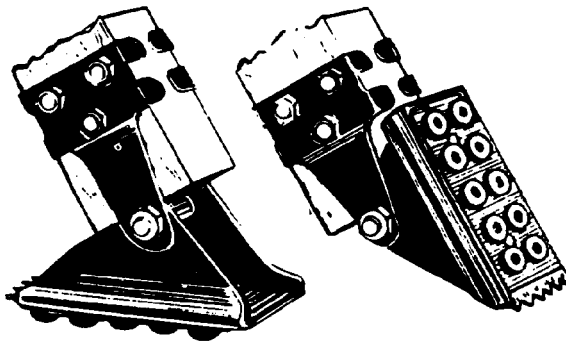
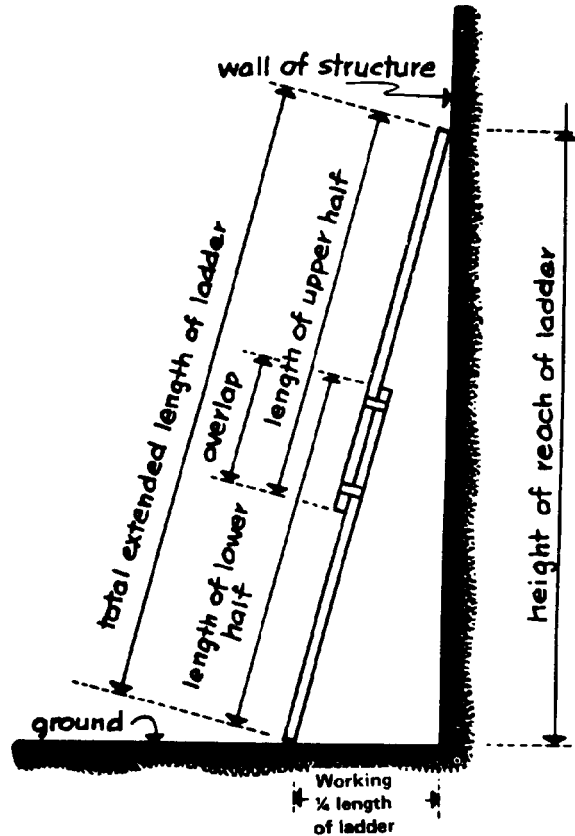
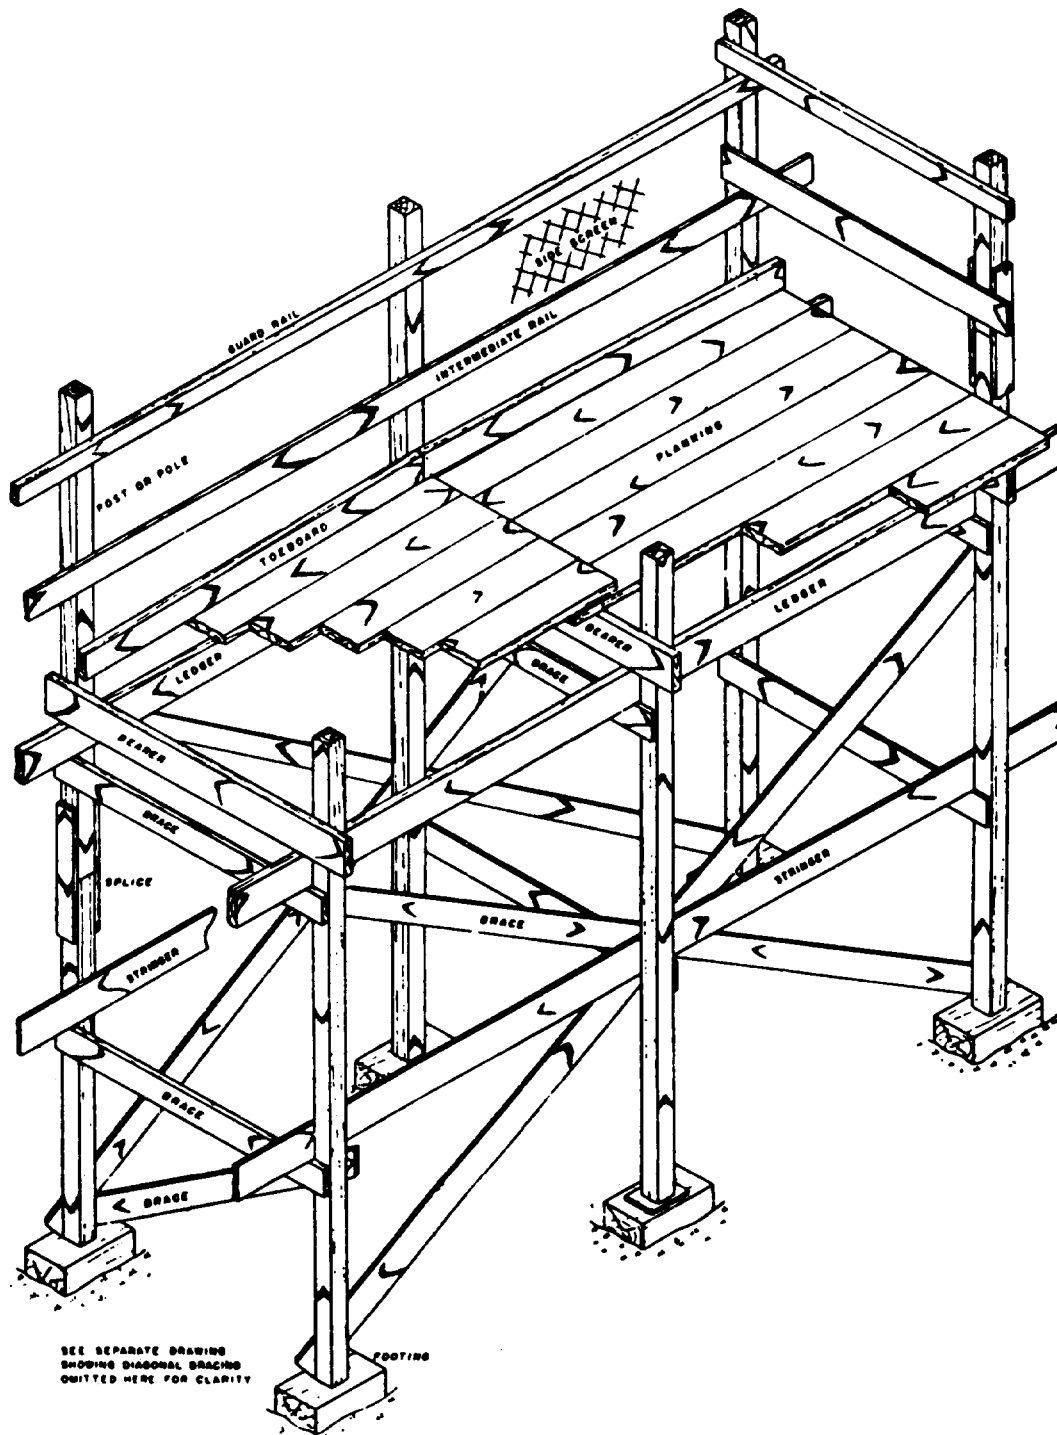

FIGURE 3-12
FIGURE 3-13
FIGURE 3-14
- (1) Store wood ladders in a warm dry area protected from the weather and ground.
- (2) Protect wood ladders with clear coatings only, so that cracks, splinters, or other defects will be readily visible.
- (3) Inspect ladders in use at least daily for loose or bent parts, cracks, breaks, or splinters. Defects shall be repaired or ladders condemned depending upon the degree of deficiency.
- (4) All straight and extension ladders must have safety shoes. (See Figure 3-12.)
- (5) Do not use portable ladders greater in length than can be readily carried and placed by two men. Never splice ladders to form a longer ladder.
(6) Extension ladders should have a minimum overlap of 3 feet for ladders up to and including 36 feet, 4 feet for ladders over 36 feet up to and including 48 feet, and 5 feet for ladders over 48 feet up to and including 60 feet. (See Figure 3-13.)
(7) Do not use stepladders over 12 feet high. Never use one as a straight ladder. Never stand on the top step. A second man should always hold the step ladder when a worker is standing on the ladder 8 feet or more above the floor.
(8) Place ladders so that the horizontal distance from the top support to foot is at least one-fourth of the working length. Be sure that the ladder is securely in place. Rope off all doorways in front of the ladder and place warning signs.
(9) Use hand lines to raise or lower tools and materials. Do not overreach when working on ladders. Move the ladder instead.
(10) Never use metal ladders in areas where contact with electric power lines is possible.
(11) Employees shall face the ladder and use both hands when ascending or descending.
(12) Stepladders shall be fully opened during use. A metal spreader or locking device shall be a component for each stepladder.
(13) Straight ladders shall be secured.
(14) Rungs shall be kept free of grease and oil.
(15) Portable ladders shall be so placed that the side rails are on a stable footing. The top rest for portable rung and cleat ladders shall be reasonably rigid with ample strength to support the applied load.
(16) Ladders shall be protected by barricades when used at work locations in hallways, doorways and stairways. A ladder should never be placed in front of a doorway unless the door is locked, blocked, or guarded.
(17) Ladders shall never be used as horizontal scaffold members.
(18) Ladders shall not be used by more than one worker at a time.
(19) No ladder shall be used to gain access to a working level unless the top extends at least 3 feet above the point of support.
b. Scaffolding (See Figures 3-14 through 3-21 for types of scaffolding):
(1) Inspect all parts before use. Reject metal parts damaged by corrosion/deformation and wood parts with defects such as checks, splits, unsound knots, and decay which may reduce its strength. Scaffolding and its use shall conform to ANSI A 10.8 (Feb 1974).